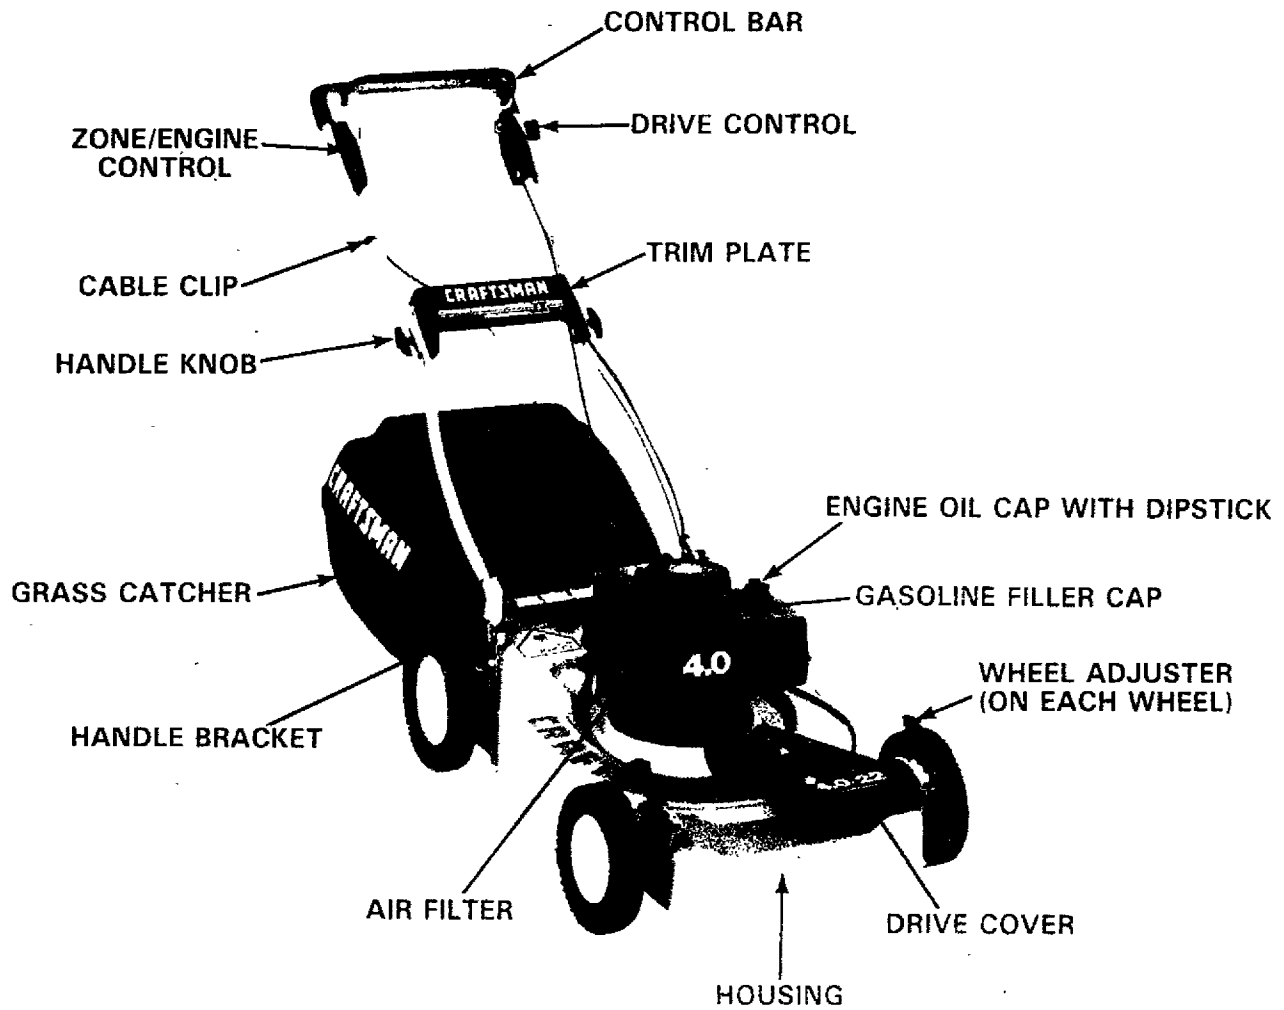

FIG. 1
2. Raise the upper handle into position on the lower handle and tighten the two (2) handle knobs.
- a. Remove the two (2) screws, one (1) bolt and locknut holding the trim plate and rope guide to lower handle. Keep for re-assembly (See Fig. 1).
- h. Put trim plate and rope guide back on lower handle, removed in (a) above. Tighten the two (2) screws and one (1) bolt (See Fig. 1).
- i. Snap cable clip over cable and lower handle (See Fig. 1).